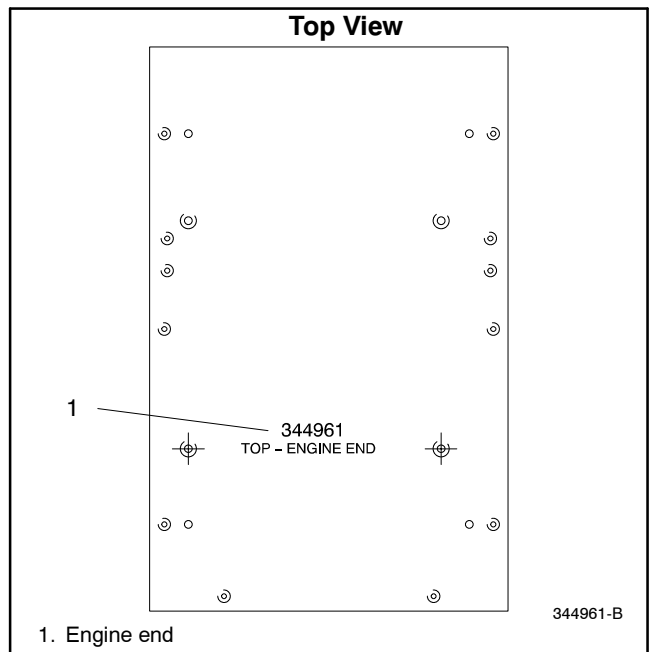

Figure 1 Sound Shield Base Mounting Position
- 1.4 Position the generator set onto the sound shield base (344961) and secure the set with 4 screws (X-6238-2) and 4 washers (X-25-37). See Figure 1.